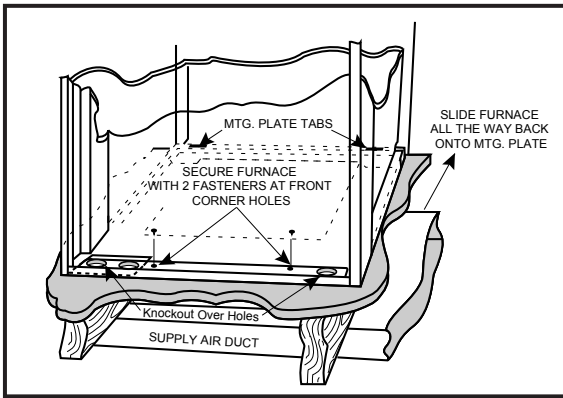

Figure 13. “A”, “B”, & Platinum Cabinet Furnaces
- d. Secure front with one (1) fastener at each corner (See Figure 13 or 14).